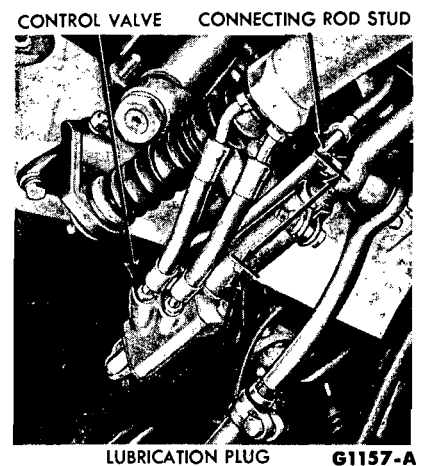

FIG. 8—Control Valve Installation Measurements—All Models
3. Measure the distance between the center of the grease plug in the sleeve and the center of the stud at the inner end of the left spindle connecting rod (Fig. 8). The distance should be 5 5/8 inches for Comet, Falcon and Fairlane vehicles. The distance should be 5 inches for Mustang and Cougar models. If the distance is not correct, disconnect the ball stud from the sector shaft arm and turn the valve on the center link to increase or decrease the distance.